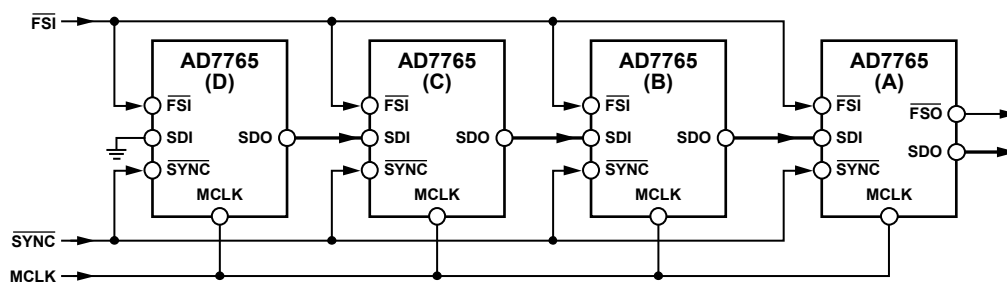

Figure 34. Daisy-Chaining Four Devices in Decimate 128x Mode Using a 40 MHz MCLK Signal
The block diagram in Figure 34 shows how to connect devices to achieve daisy-chain functionality. Figure 34 shows four AD7765 devices daisy-chained together with a common MCLK signal applied.
Referring to Figure 34, note that the SDO line of AD7765 (A) provides the output data from the chain of AD7765 converters. Also, note that for the last device in the chain, AD7765 (D), the SDI pin is connected to ground. All of the devices in the chain must use common MCLK and SYNC signals.
(for Daisy-Chain Configuration Shown in Figure 34)